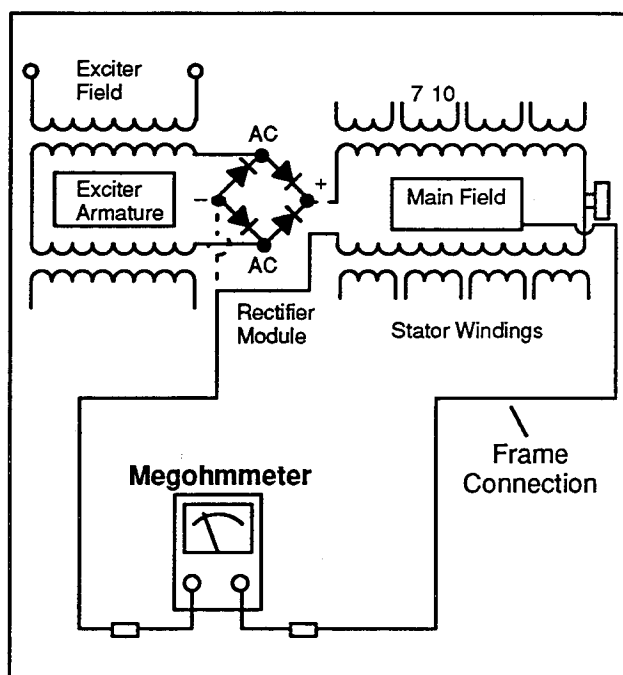

Figure 8-11. Megohmmeter Connections on Main Field
3. Check main field for a grounded condition. Using a megohmmeter, apply 500 Volts DC to either field lead and main field frame. (Follow the instructions of the megohmmeter manufacturer when performing this test.) See Figure 8-11. A reading of approximately 500K ohms (1/2 megohm) and higher indicates the main field is good. A reading of less than 500K ohms (approximately) indicates deterioration of winding insulation and possible current flow to ground. Repair or replacement of the main field is necessary.